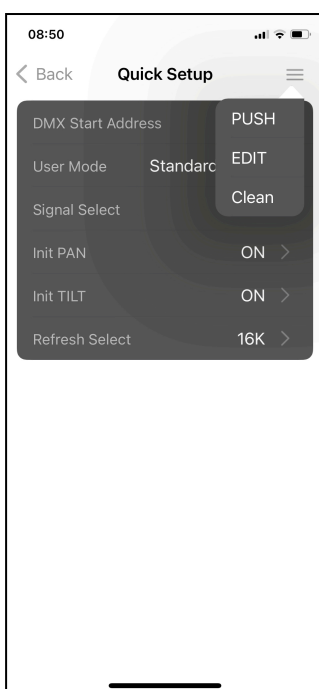
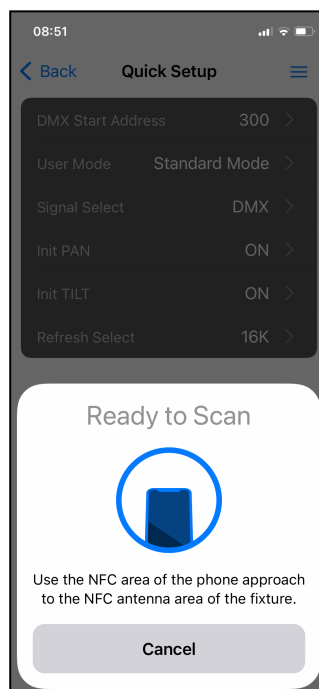
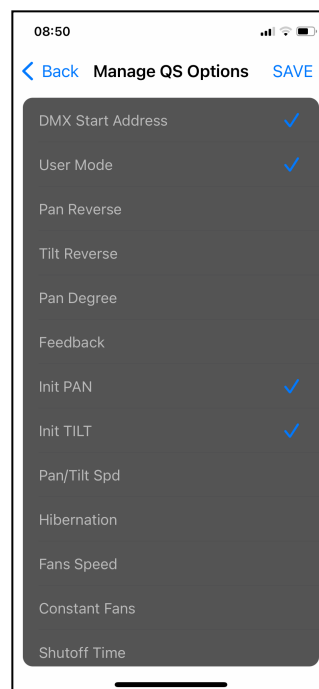

Figure 11
Figure 12
Figure 13
10) and tap the upper right corner button to view the quick setting options (Figure 11): “PUSH” to write the NFC settings (Figure 12), “EDIT” to add or delete the setting menus into the “Quick Setup” list (Figure 13).